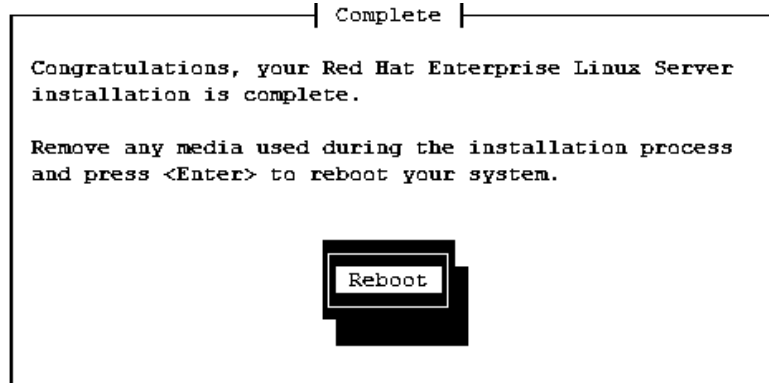

Figure 8-20 Installation complete panel
24. Press **Reboot** after the Install Complete window appears, as shown in Figure 8-20